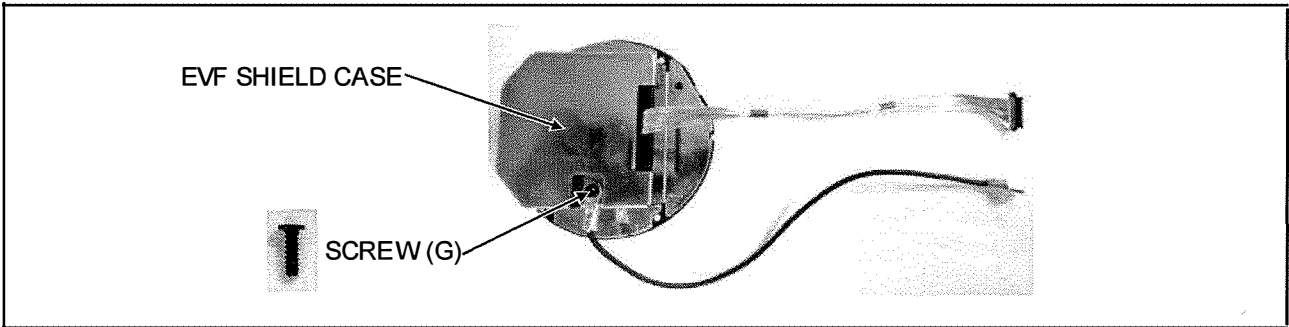

Figure 12-4
9. Unscrew a screw (G) and remove the GND cable and EVF SHIELD CASE as shown in figure 12-4.